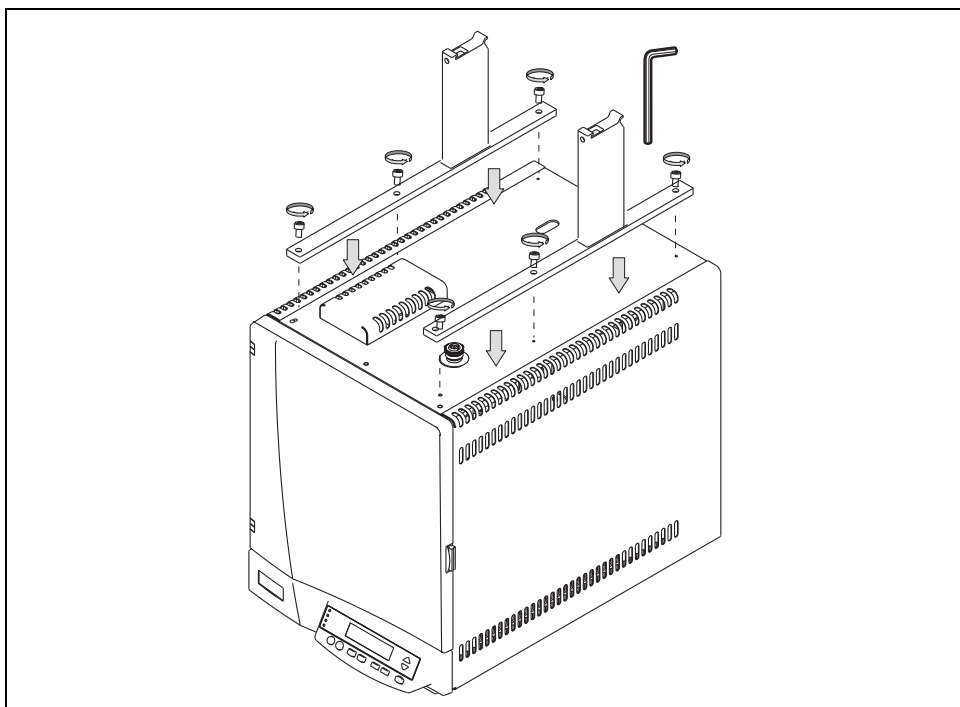

Figure 3-4. Sampler Supports Installation on a FOCUS GC (1)
3. Mount each sampler support on the GC paying attention to have the support leg turned toward the back of the GC as shown in Figure 3-4.